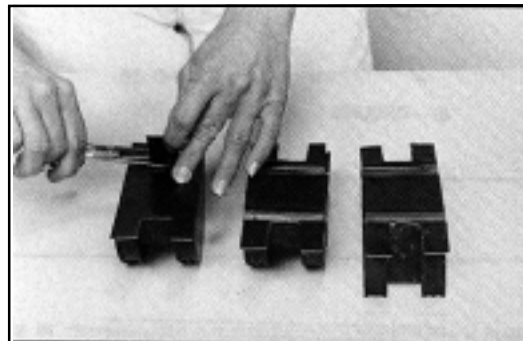

FIGURE 13 – SQUARE CUT BOLT HOLES
6.05 Square cut the tape away from the bolt holes. (The area just beyond the metal insert.) (Figure 13)